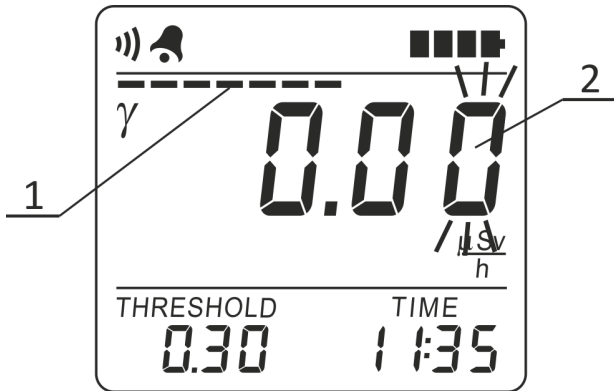

Figure 7 – LCD of the radiometer
If you keep holding the THRESHOLD button, then during the next two seconds the radiometer will proceed to the submode of programming of new values of alarm threshold level and specified statistical error, and switching on/off audio signaling of registered gamma-quanta (Figure 7). A stripe (1) “moving” across the instantaneous value indicator and blinking of the low-order digit (2) of a new threshold level serve as an indication of this submode. Then release the THRESHOLD button.